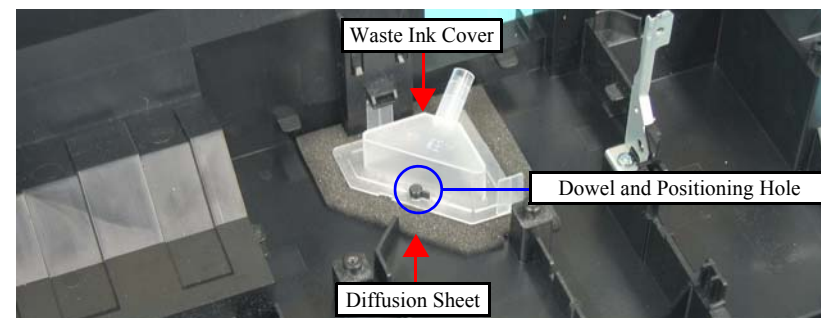

Figure 4-98. Removing the Waste Ink Cover and Diffusion Sheet
- When installing the Waste Ink Cover, be sure to align the dowel (x1) of the Base Frame with the positioning hole (x1) of the Waste Ink Cover as shown in Figure 4-98. Make sure to confirm the cover is properly secured on the Diffusion Sheet without any gap.